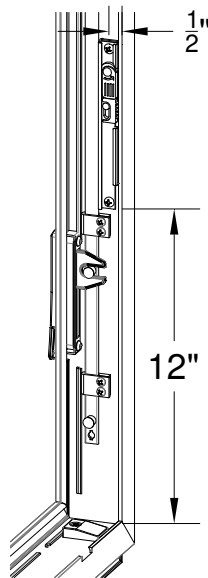

Figure 2:
1. With the vent open, measure 12" up on the interior of the frame (Figure 2), mark the location on the vertical jamb where the WOCD is to be placed.